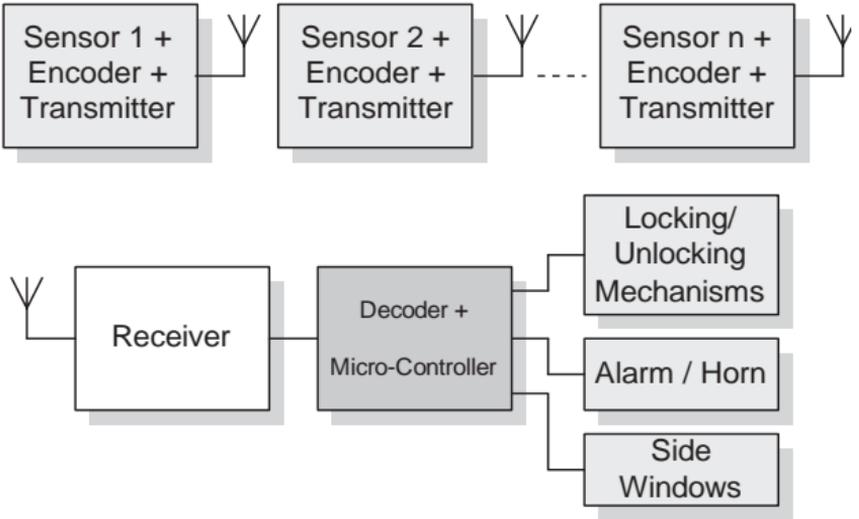

Figure 13. Remote Keyless Entry Application
- Remote and Passive Keyless Entry and Car Alarm (Figures 13 and 14)